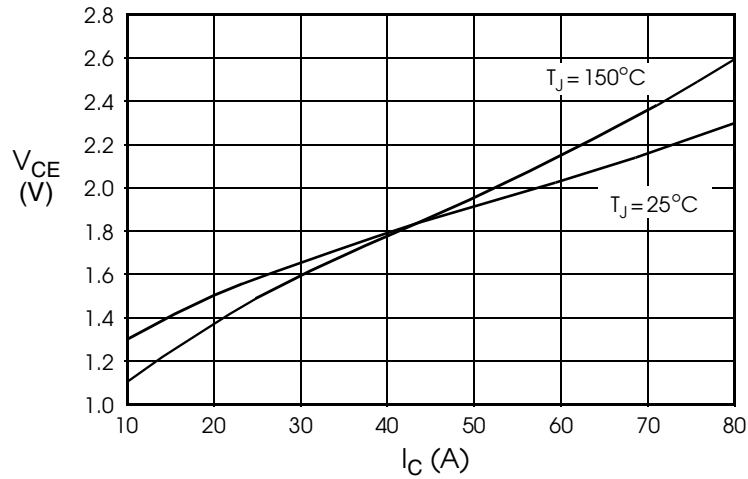

FIGURE 4 - IGBT COLLECTOR-TO-EMITTER VOLTAGE VS. COLLECTOR CURRENT
Calculating IGBT conduction losses requires the user to determine load profiles for the hybrid both in current and time duration. IGBT collector-emitter voltage drops are shown in Figure 4.
- $V_{CE}$  = Collector Emitter voltage from Figure 4 for a particular collector current